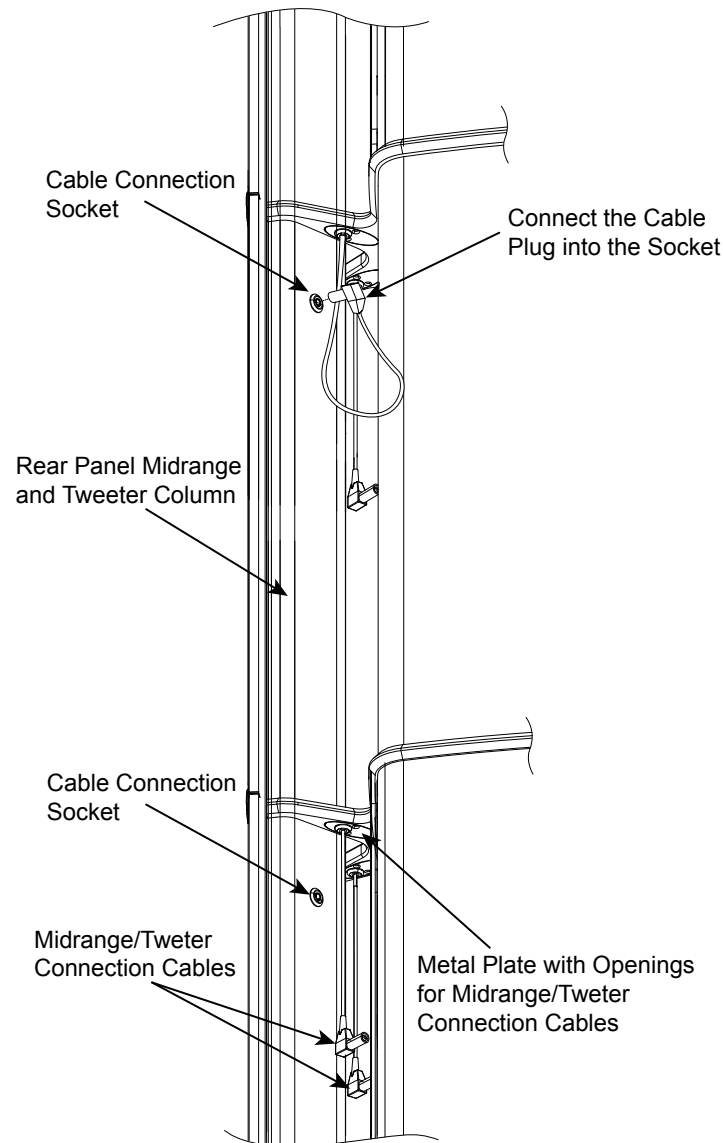

Figure 17
9. Two of the four cables are placed through openings on each of the two Metal Plates used to support the Midrange/Tweeter Column. Refer to figure 17.
11. Referring to the drawing in the upper part of figure 17, connect the cable to the socket. Then connect the other three remaining cables to the three other sockets.